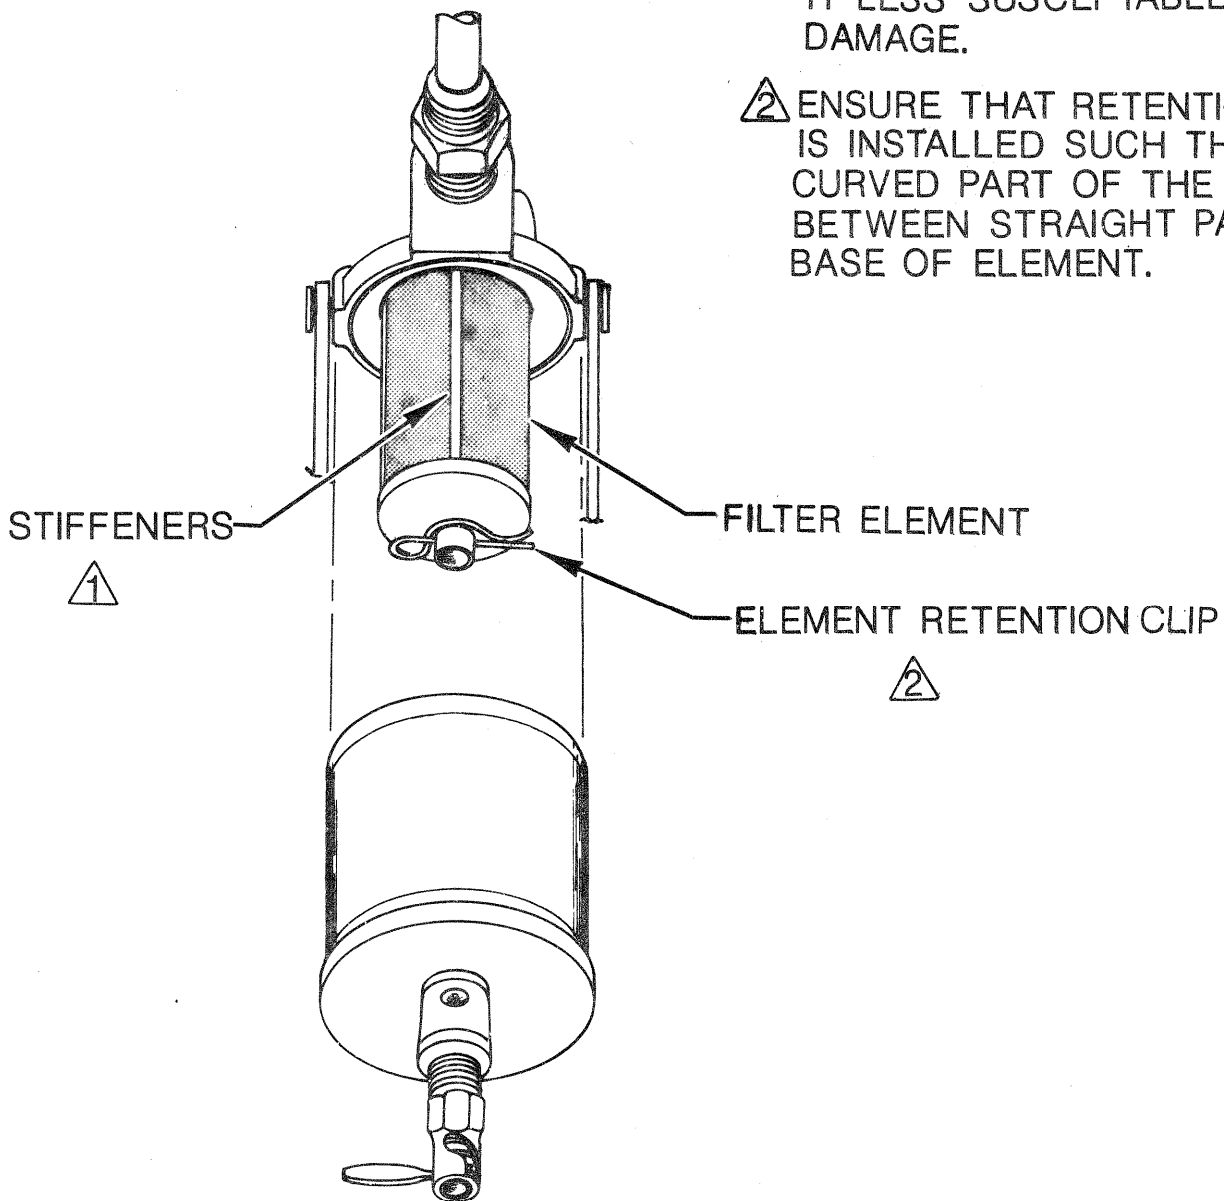

FIGURE 1. FUEL FILTER STRAINER - EXPLODED VIEW.
- d. If any damage or distortion of the filter element is observed during the inspection, remove the filter element and replace it with the current 33-199-915 element which incorporates stiffeners. (Refer to Figure 1.)
As shown in Figure 1, the clip which secures the filter element in the stainer must be installed such that the curved part of the clip is between the straight part (of the clip) and the base of the element. If clip is installed in opposite manner, the element may slide down in the strainer and allow unfiltered fuel to enter the engine fuel system.
- e. Ensure that element retention clip is installed in proper manner as shown in Figure 1.